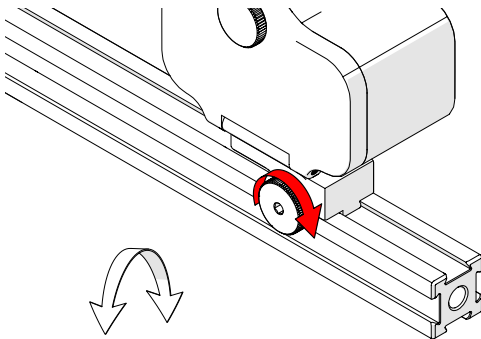

Fig. 29 - Tighten the preamp mounting bracket knob
3. Tighten the preamp's mounting bracket knob (Fig. 29).